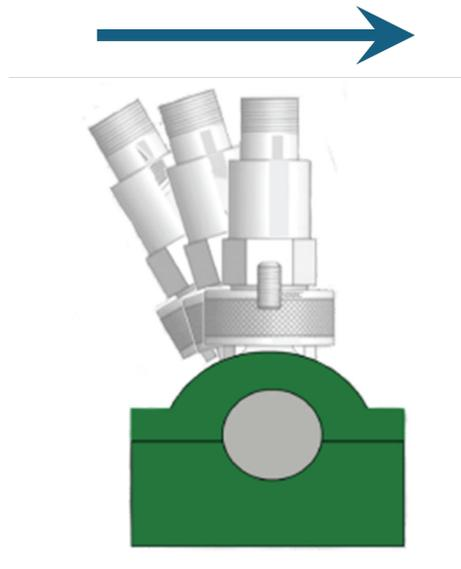

Figure 8. "Rocking" motion for magnetically mounting an accelerometer (image courtesy of Connection Technology Center)
4. “Rock” the sensor/magnet combination onto the selected location as shown in Figure 8.